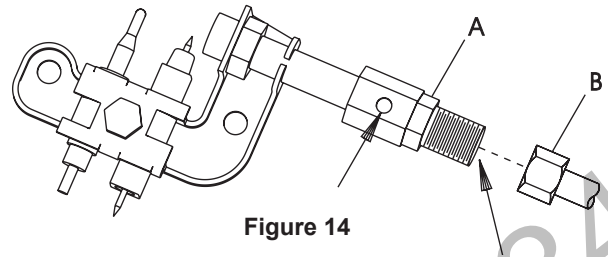

Figure 14
## Oxygen Depletion Sensor Pilot (Figure 14)
5. Disconnect pilot tubing from pilot (see Figure 14, Page 14). Grasp nut A with a wrench when removing nut B with a second wrench.